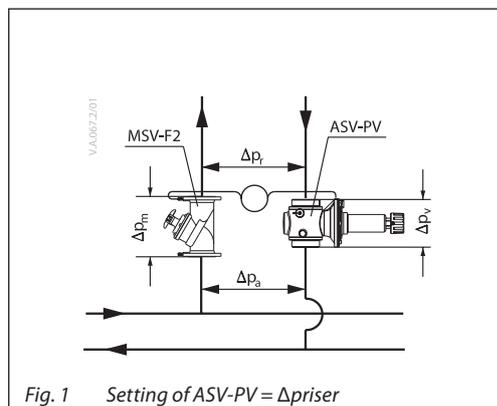

Fig. 1 Setting of ASV-PV =  $\Delta p_{riser}$
- partner valve outside the control loop (Fig. 1). Recommended configuration: it results in best performance since whole controlled pressure range is available to the riser. Flow limitation is done on each terminal unit in the riser.